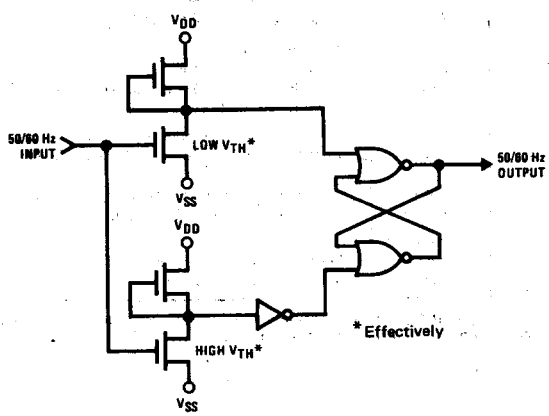
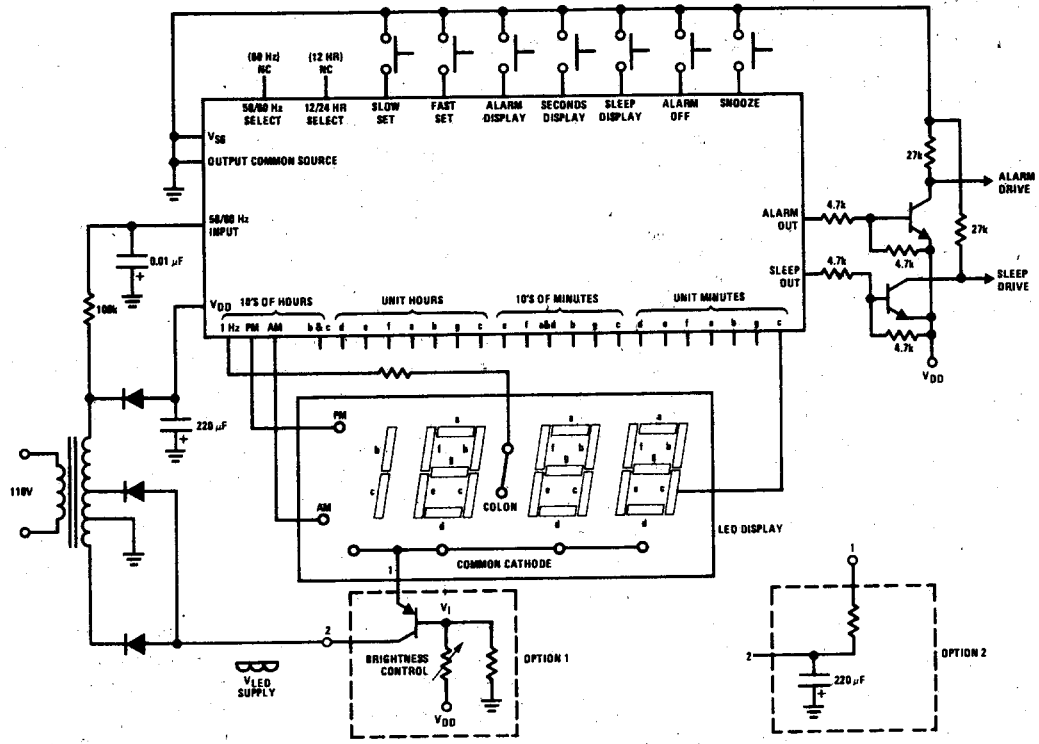

FIGURE 3. 50/60 Hz Input Shaping Circuit
FIGURE 7
**50 or 60 Hz Input:** A shaping circuit (*Figure 3*) is provided to square the 50 or 60 Hz input. This circuit allows use of a filtered sinewave input. The circuit is a Schmitt trigger that is designed to provide about 6V of hysteresis. A simple RC filter such as shown in *Figure 7*, should be used to remove possible line-voltage transients that could either cause the clock to gain time or damage the device. The shaper output drives a counter chain which performs the timekeeping function.
Figure 7 is a schematic diagram of a general purpose alarm clock circuit (12-hour mode) using the MM5387AA or MM53108 and a 3 1/2-digit LED display.